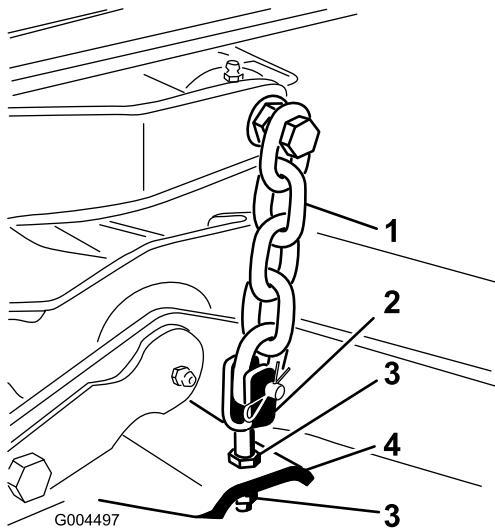

Figure 24
8. Adjust the jam nuts securing the mower yokes/chains to the mower until the mower is level (Figure 24).